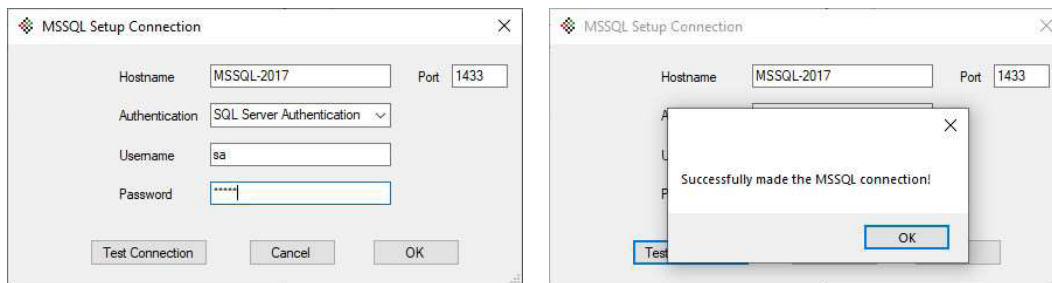

Figure 10
1. Open the LSP OnGuard Service - a MSSQL Setup Connection window will open. See Figure 10